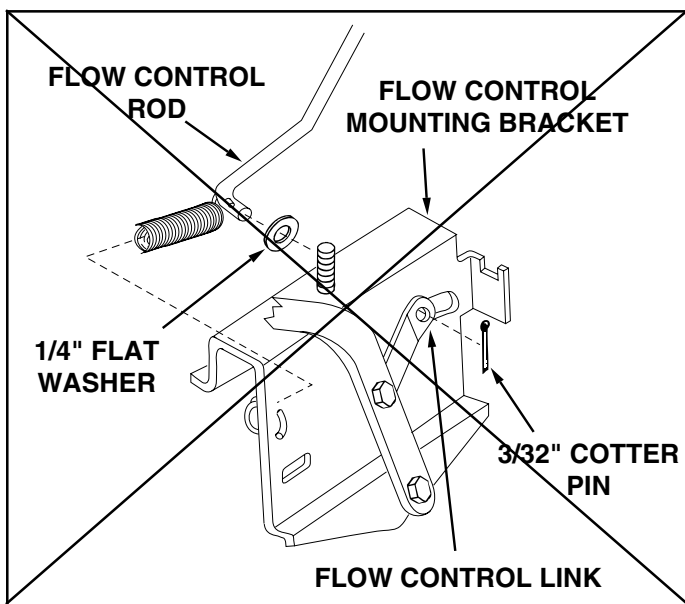

FIGURE 11
- Place 1/4" flat washer on end of flow control link, align with slot in flow control mounting bracket and insert end of flow control rod through slot and hole in flow control link. Secure with 3/32" cotter pin. See figure 11.